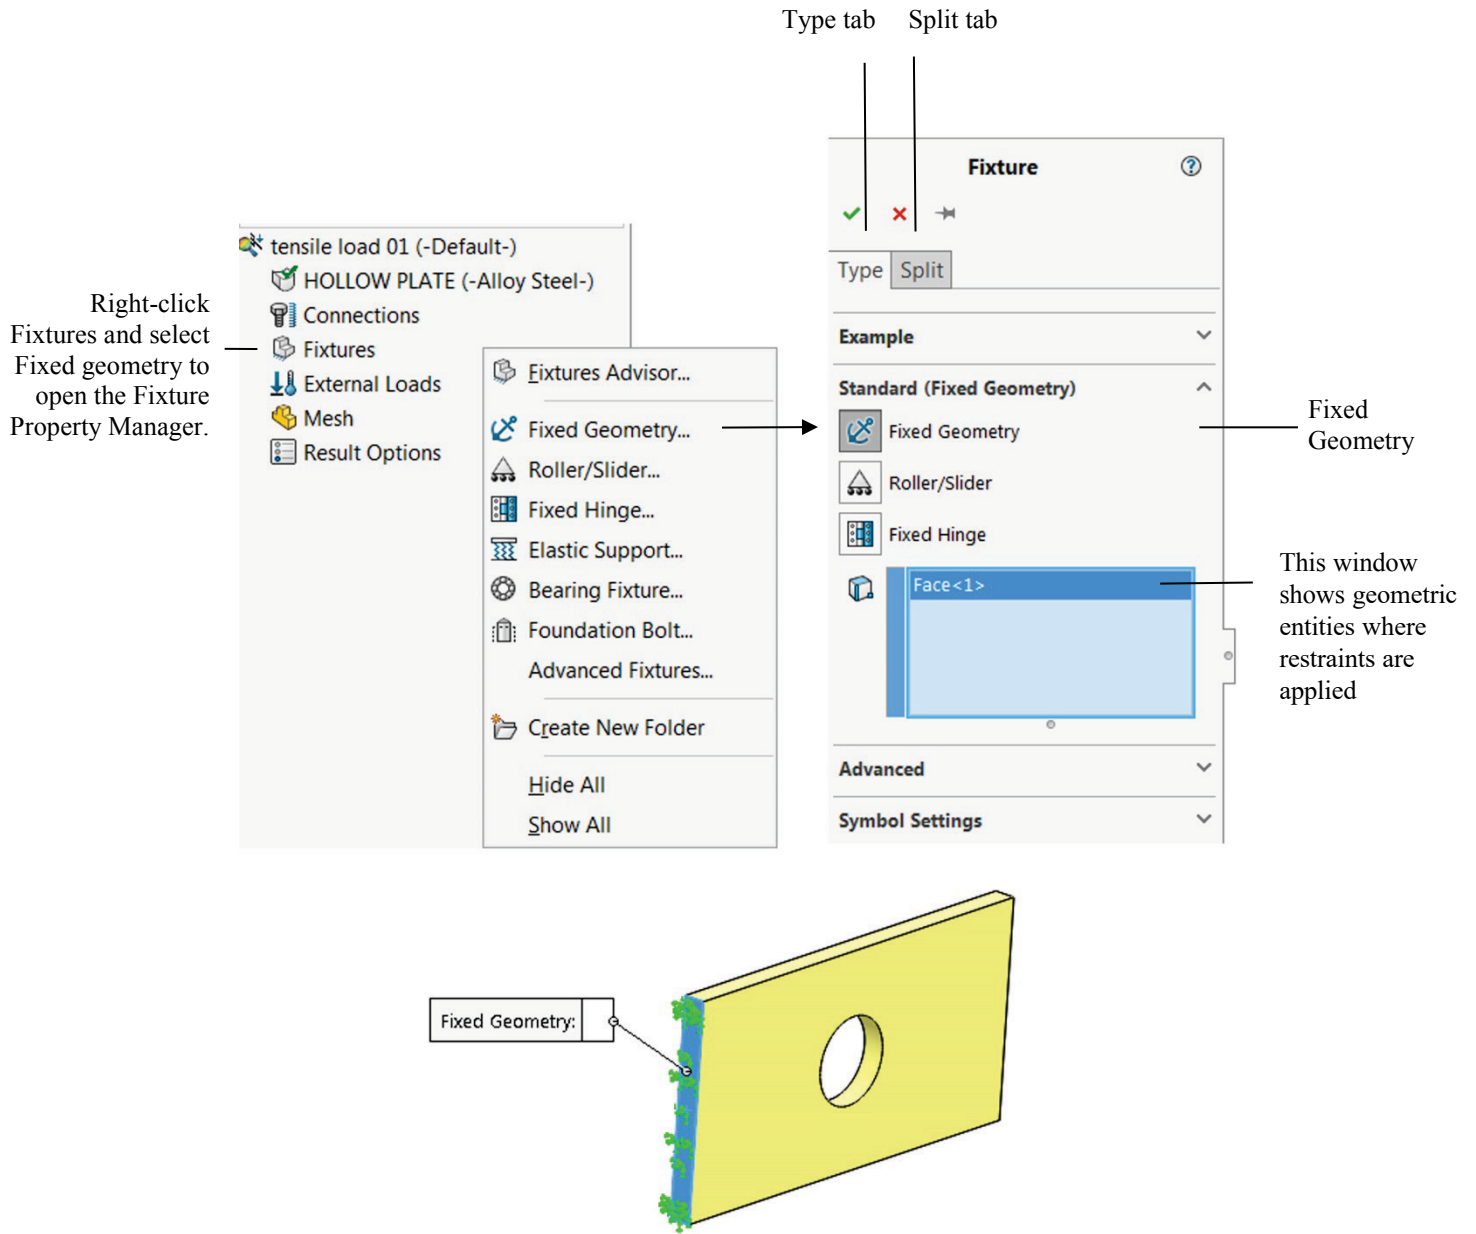

Figure 2-10: Pop-up menu for the Fixtures folder and Fixture definition window (Fixture Property Manager).
Having assigned the material, we now move to defining the restraints. To display the pop-up menu that lists the options available for defining restraints, right-click the *Fixtures* folder in the *tensile load 01* study (Figure 2-10).
The existence of restraints is indicated by symbols shown in Figure 2-10. In the **Symbol Settings** of the Fixture window, the size of the symbol can be changed. Notice that symbols shown in Figure 2-10 are distributed over the highlighted face meaning the entire face has been restrained. Each symbol consists of three orthogonal arrows symbolizing directions where translations have been restrained. Each arrow has a disk symbolizing that rotations have also been restrained. The symbol implies that all six degrees of freedom (three translations and three rotations) have been restrained. However, the element type we will use to mesh this model (second order solid tetrahedral element) has only translational degrees of freedom. Rotational degrees of freedom can't be restrained because they don't exist in this type of element. Therefore, disks symbolizing restrained rotations are irrelevant in our model. Please see the following table for more explanations.
- ❑ Right-clicking the *Fixtures* folder and selecting **Hide All** or **Show All** in the pop-up menu shown in Figure 2-10, or